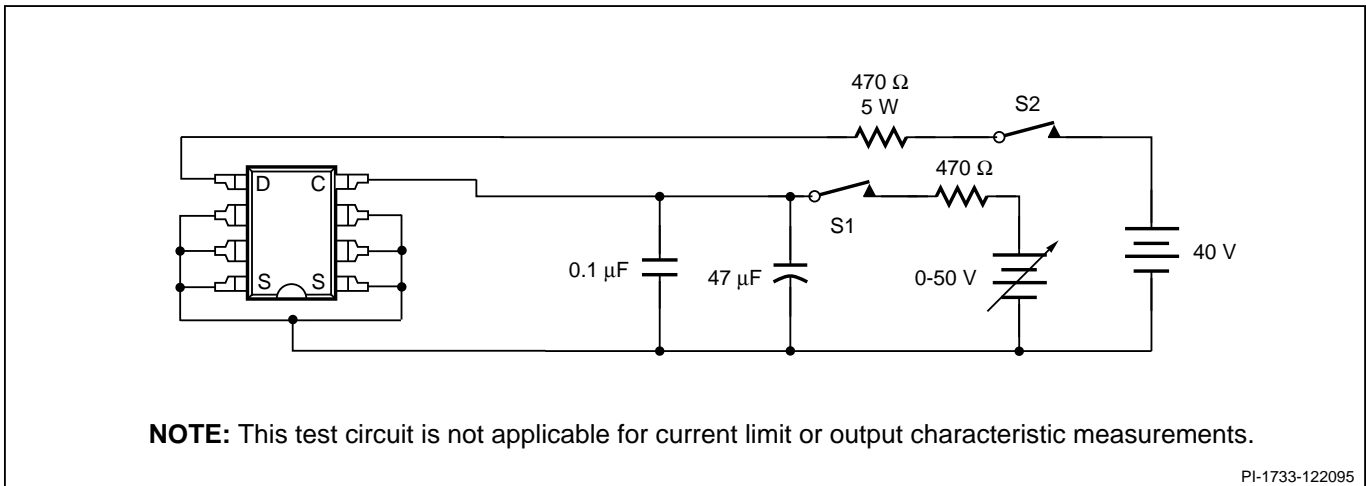

Figure 12. *TOPSwitch* General Test Circuit.
(Unless Otherwise Specified) See Figure 12 SOURCE = 0 V $T_J = -40$ to $125$ °C
- B. The breakdown & leakage measurements can be accomplished by using the *TOPSwitch* auto-restart feature. The divide-by-8 counter in the auto-restart circuitry disables the output MOSFET from switching in 7 out of 8 cycles. To place the *TOPSwitch* in one of these cycles, the following procedure can be carried out using the modified circuit of Figure 12:
The following precautions should be followed when testing *TOPSwitch* by itself outside a power supply. The schematic shown in Figure 12 is suggested for laboratory testing of *TOPSwitch*.